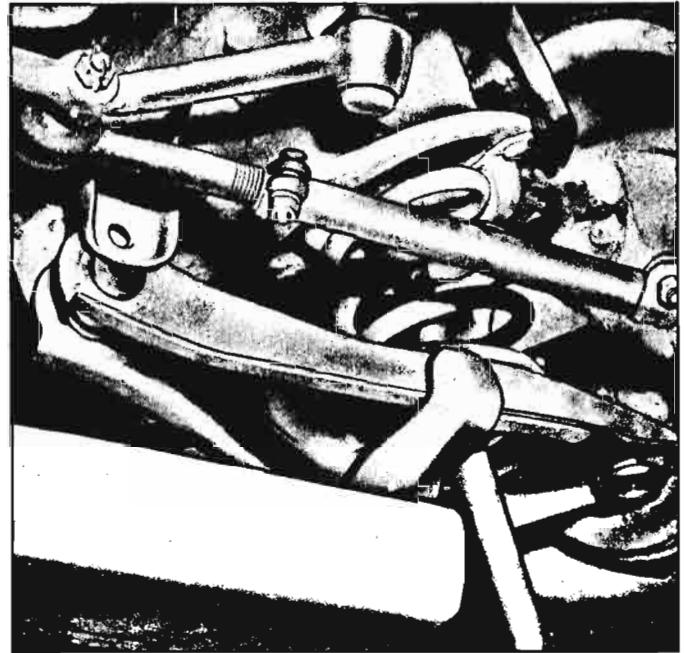
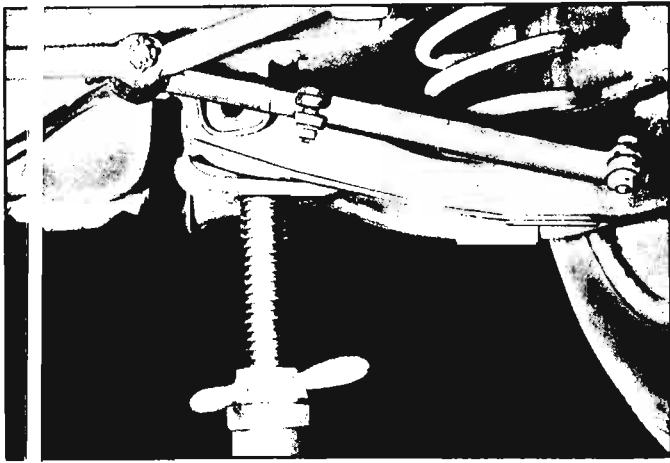

Fig. 3-17—Front Coil Spring Installation (Hoist)
Fig. 3-18—Front Coil Spring Installation (Jack Stand)
4. Using either the front post (fig. 3-17) or a jack stand (fig. 3-18), raise control arm, line up arm and bracket and install bolt (from the front), nut and lockwasher. Do not tighten at this time.